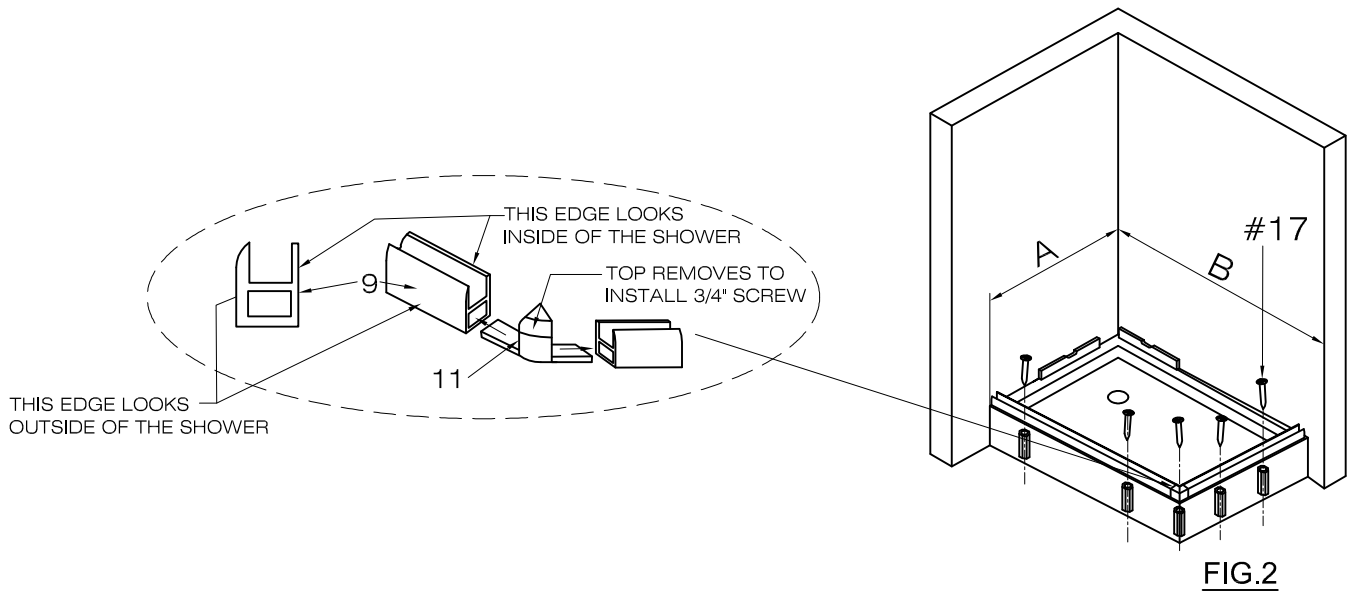

FIG.2
1. Slide the corner joint (#11) onto the bottom rail (#9). [SEE FIG.2]